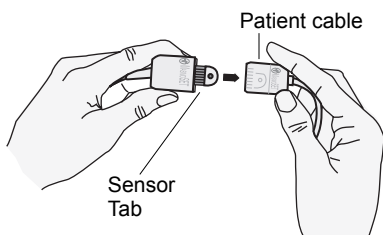

Figure 5
4. Match the Masimo SET logo on the DCI sensor to the logo on the SpO₂ patient cable, and slide the sensor tab into the patient cable until it clicks into place (see Figure 5).